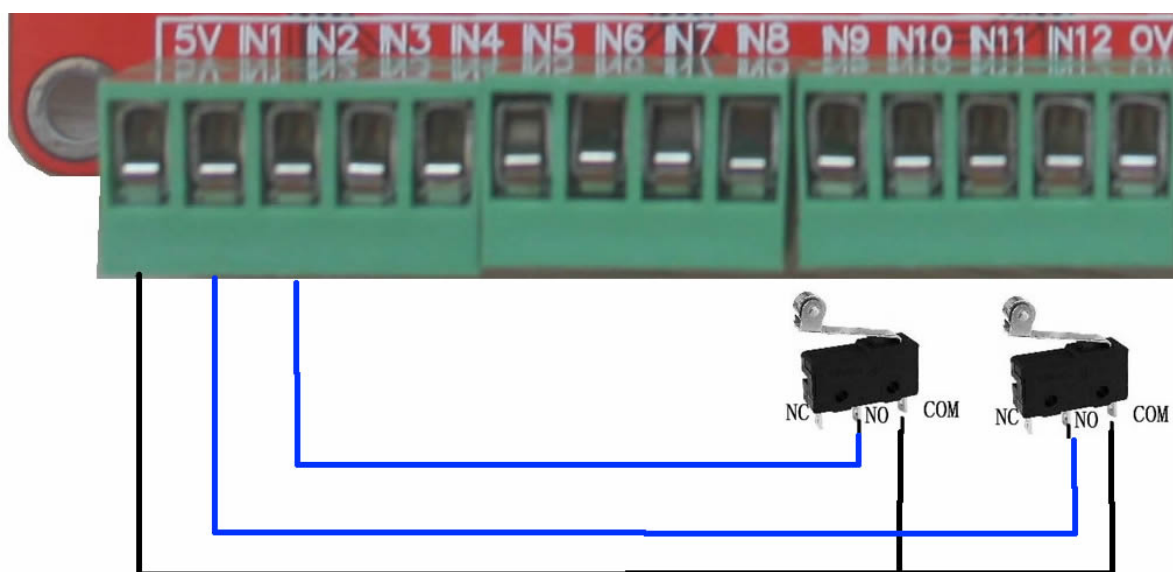
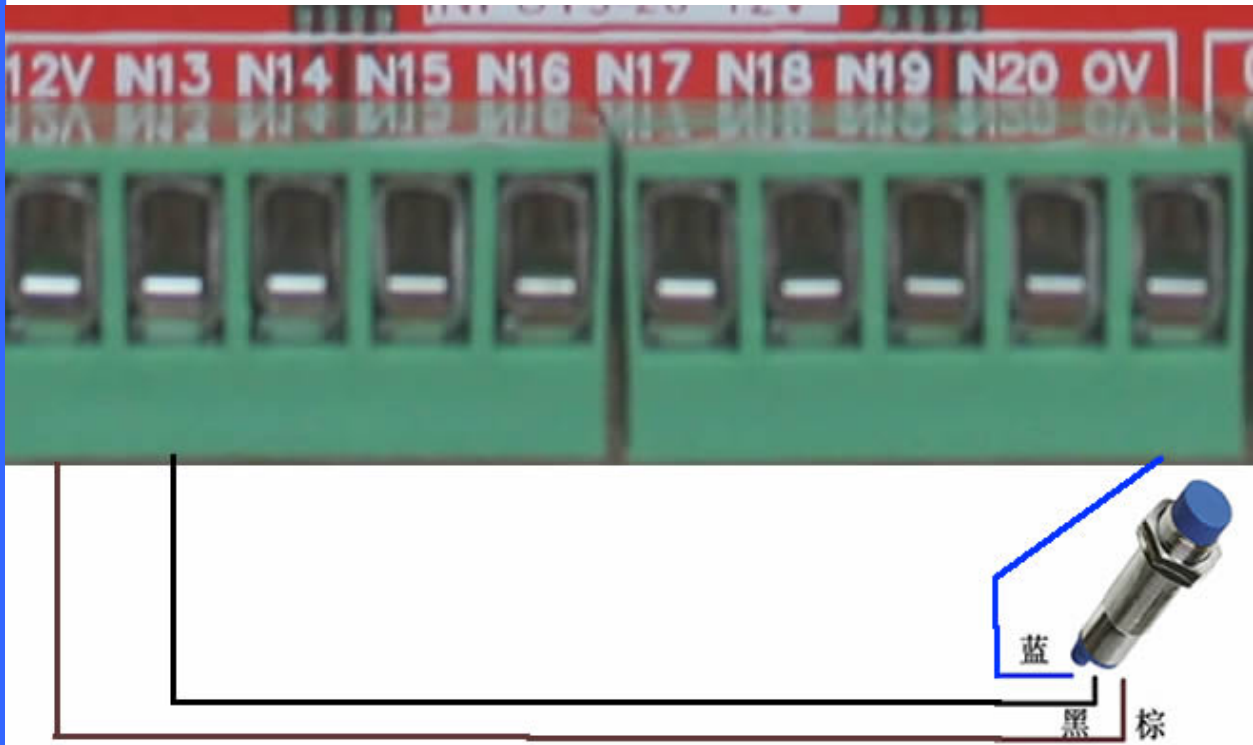

Figure 2-2. normal Tact limit switch connection
Figure 2-3. Inductive limit switch connection
- B) 5V General INPUT PORT, see as Figure 2-2, it is defined as 5V、IN1、IN2、IN3、IN4、IN5、IN6、IN7、IN8、IN9、IN10、IN11、IN12、GND from left to right, The interface uses opto-isolated, using common positive input, 5V is used as the common Port. Wiring methods see as Figure 2-2.
- C) 12 V General INPUT PORT, see as Figure 2-3, it is defined as 12V、IN13、IN14、IN15、IN16、IN17、IN18、IN19、IN20、GND from left to right, The interface uses opto-isolated, using common positive input, 5V is used as the common Port. Wiring methods see as Figure 2-2. Can also be used with 3-wire sensor switch. See as figure2-3.